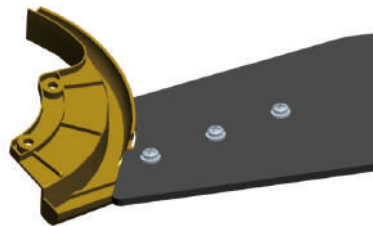

Fig 1.2
1.2 Fig 1.2 is the schematic diagram of the installed fan blade bracket. Repeat these steps for the remaining blades. Make sure all the screws are firmly tightened.